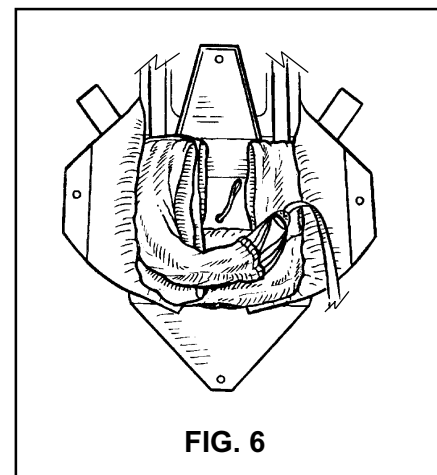

FIG. 6
7. Make two folds up and down the left side of the container, keeping the bulk away from the center as much as possible. The rigger may at this point make another fold across the bottom in order to distribute the bulk evenly side to side (**FIG. 6**).